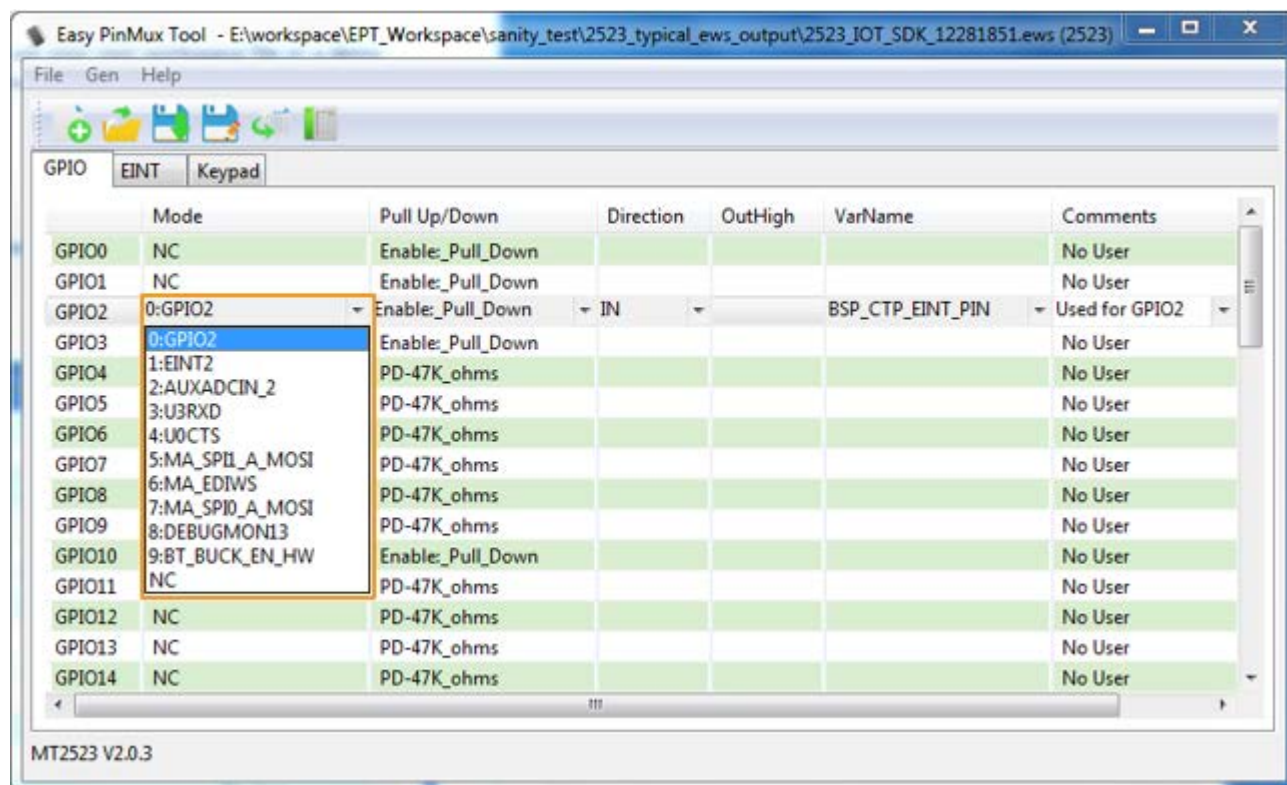

Figure 4 . Edit a workspace
- 1) When an existing workspace is opened or a new workspace is created, you can configure its parameters according to your requirements in the edit area, as shown in Figure 4.